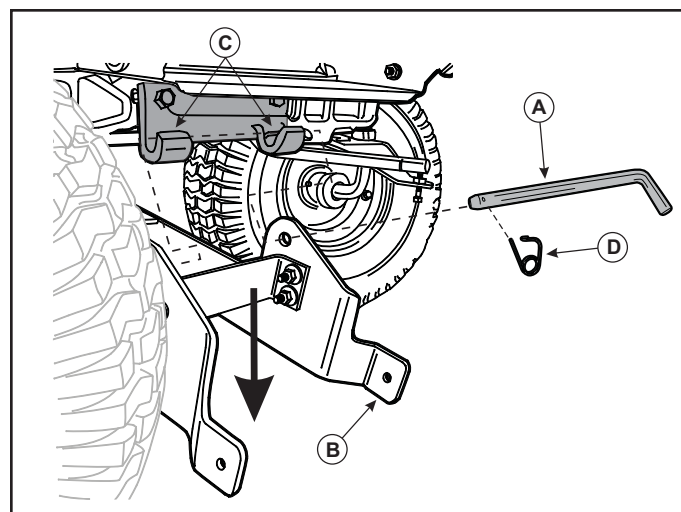

Figure 26. Latch Pin Removal
10. Turn the front wheels fully to the left. Remove the latch pin quick clip (D, Figure 26) and slide the latch pin (A) to the left.